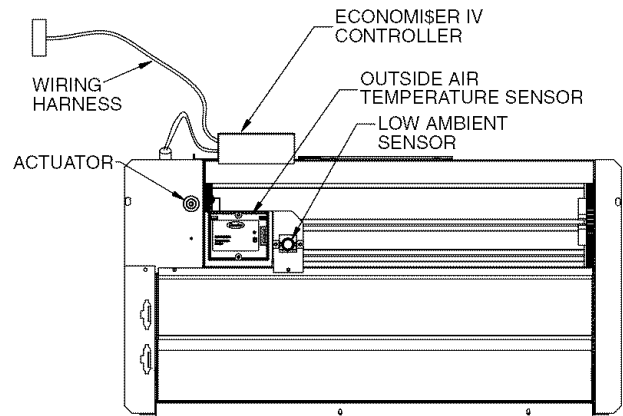
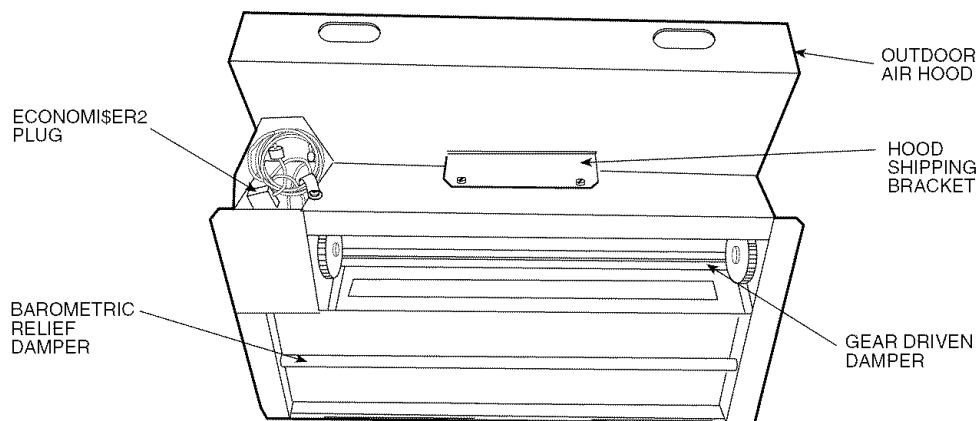
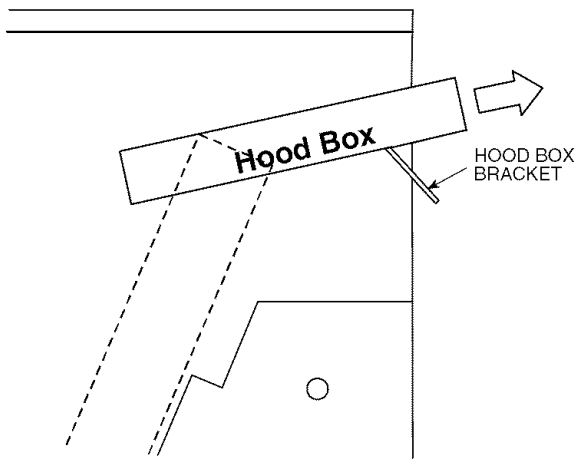

Fig. 21 — EconoMiSer IV Component Locations
Fig. 22 — EconMiSer2 Component Locations
Fig. 24 — Hood Box Removal
OPTIONAL ECONOMISER IV AND ECONOMISER2 — See Fig. 21 for EconoMiSer IV component locations. See Fig. 22 for EconoMiSer2 component locations.
2. The box with the economizer hood components is shipped in the compartment behind the economizer. The EconoMiSer IV controller is mounted on top of the EconoMiSer IV in the position shown in Fig. 21. The optional EconoMiSer2 with 4 to 20 mA actuator signal control does not include the EconoMiSer IV controller. To remove the component box from its shipping position, remove the screw holding the hood box bracket to the top of the economizer. Slide the hood box out of the unit. See Fig. 24.
Outdoor Air Temperature (OAT) Sensor — The outdoor air temperature sensor (HH57AC074) is a 10 to 20 mA device used to measure the outdoor-air temperature. The outdoor-air temperature is used to determine when the EconoMiSer IV can be used for free cooling. The sensor is factory-installed on the EconoMiSer IV in the outdoor airstream. See Fig. 21. The operating range of temperature measurement is 40 to 100 F.
Outdoor Air Lockout Sensor — The EconoMiSer IV is equipped with an ambient temperature lockout switch located in the outdoor air stream which is used to lockout the compressors below a 42 F ambient temperature. See Fig. 21.